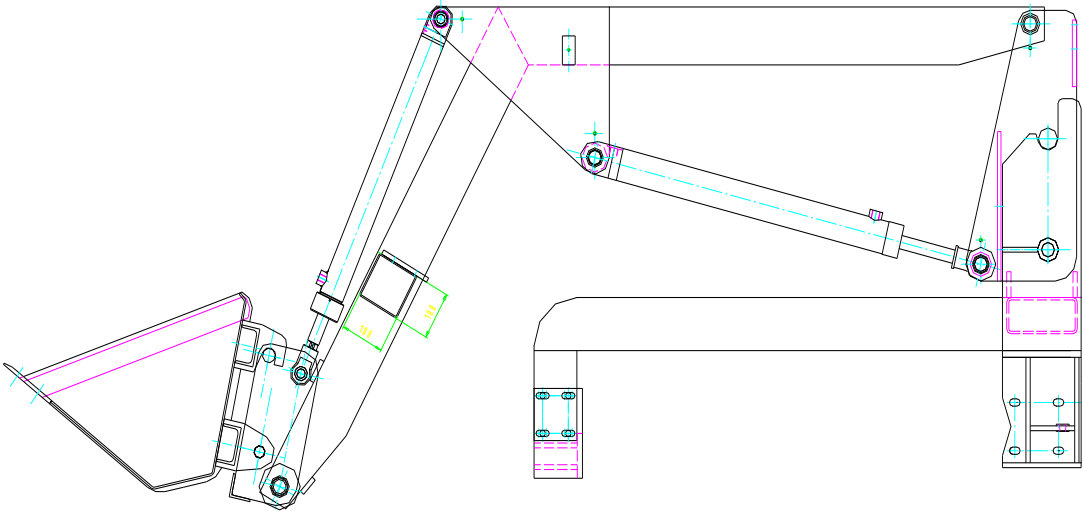

Fig.2-5 Model C (quick-link between lift arm and vertical column, lift arm and bucket)
2.1.4 Model C (As shown in Fig.2-5)